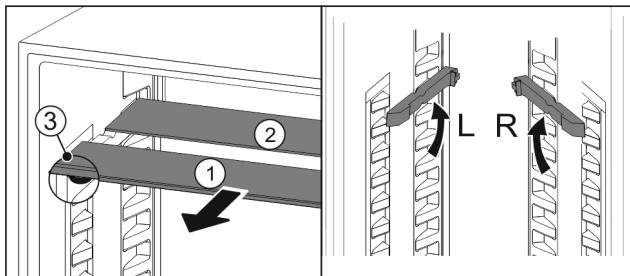

Fig. 122
- ▶ Pull the glass panels out Fig. 122 (1) from the front, one at a time.
- ▶ The glass panel Fig. 122 (1) and trim strip are at the front.
- ▶ The stops Fig. 122 (3) point down.